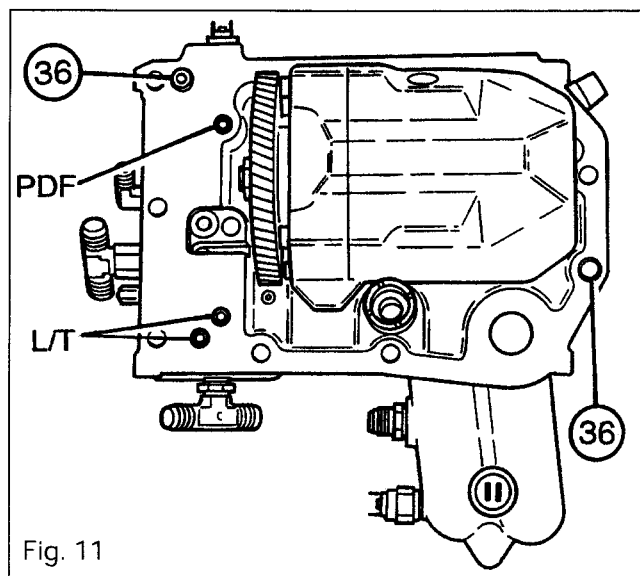

Fig. 11
10. Check that the two locating dowels (36) are in place. Replace the O-rings on the H/T and PTO channels (Fig. 11).